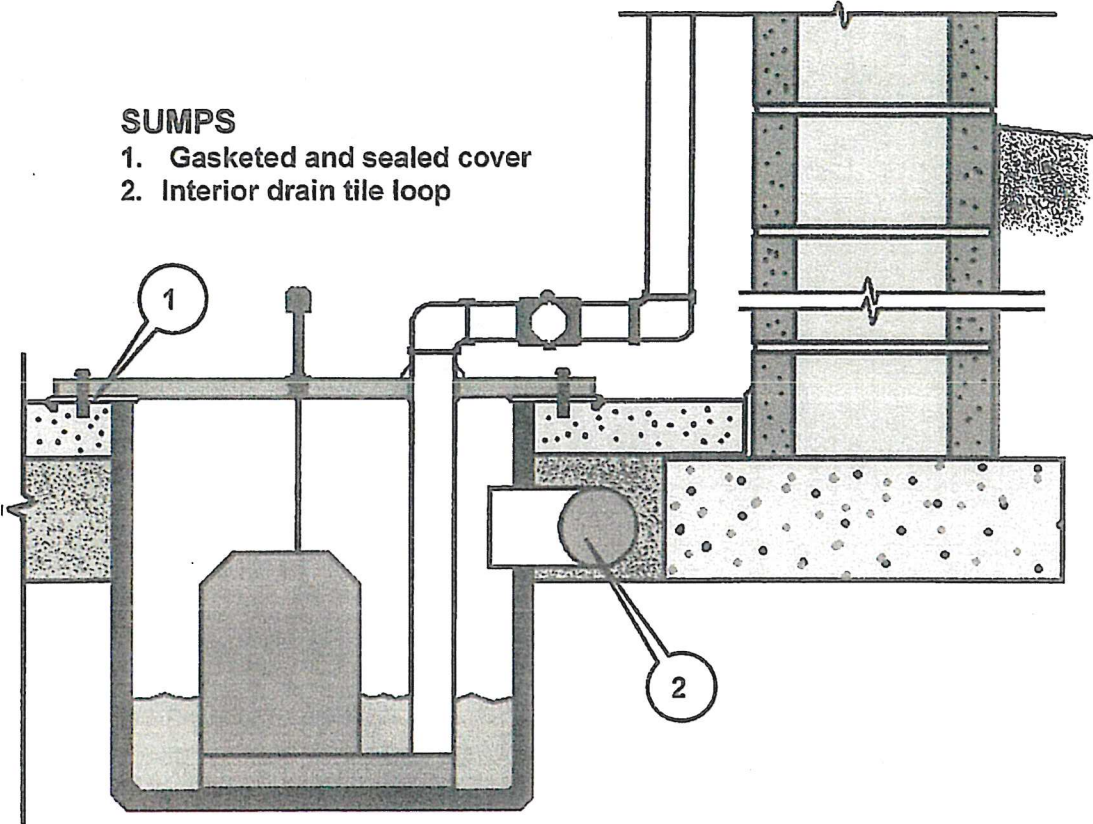

**FIGURE AF102**
**AF103.1 General.** The following passive construction techniques are intended to resist radon entry and prepare the building for post construction active radon mitigation. (see Figure AF102).